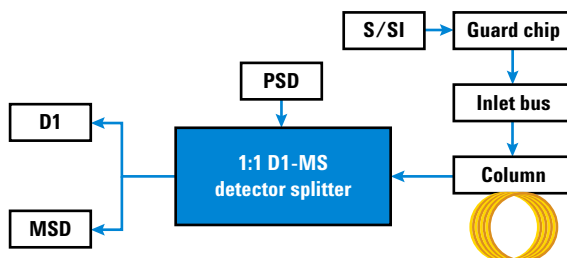

Figure 70 1:1 D1-MS Detector Splitter flow diagram
The Intuvo 1:1 D1-MS Detector Splitter is used to split the effluent from the analytical column to two different detectors, where one detector is operated at atmospheric pressure and the other is operated at sub-ambient pressure. The D1 detector can be any of the supported atmospheric detectors. The D2 is a mass spectrometer (MS). See Figure 70.